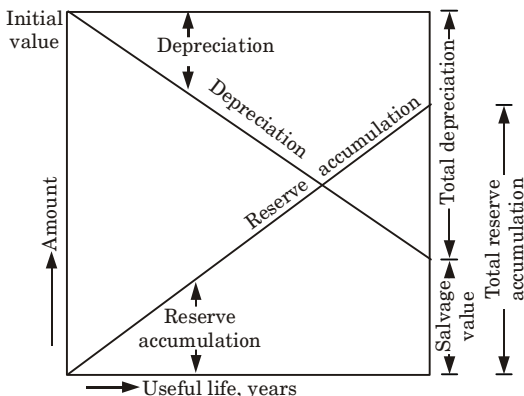

Fig. 3.3.1. Straight line depreciation.
- Fig. 3.3.1 illustrates this method.